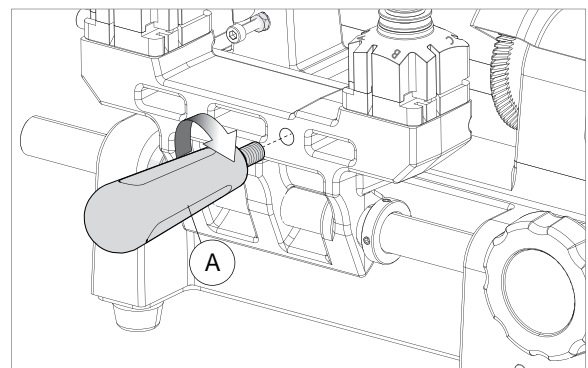

Fig. 10
Screw the handle (A) onto the carriage (Fig. 10).